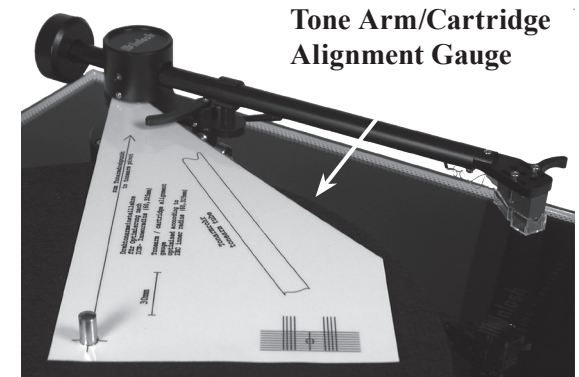

Figure 20
2. Place the Gauge over the center spindle post on the Platter and position the Gauge so the curved end is in contact with the horizontal pivot of the Tone Arm. Refer to figures 20 and 21.